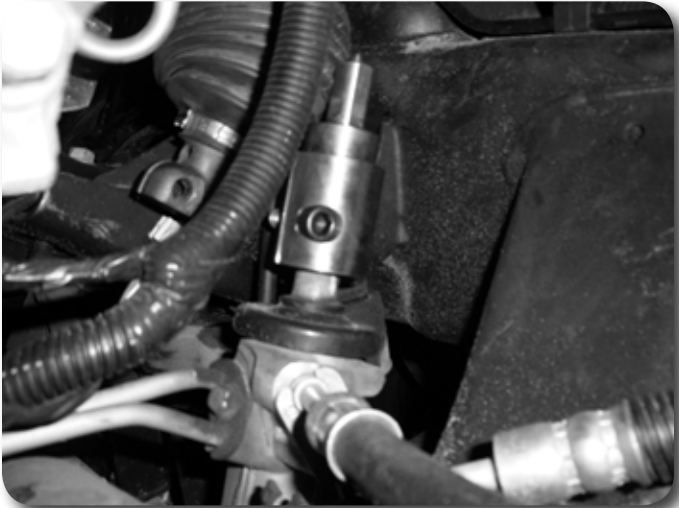

Figure 17
31. Slide the upper steering shaft joint down onto the steering extension. Make sure the steering wheel hasn't turned and the alignment marks made earlier still line up. Be sure the joint is all the way on the extension. Fasten the extension to the shaft with the factory pinch bolt (Loctite threads) and torque to 30 ft-lbs **Figure 17**.